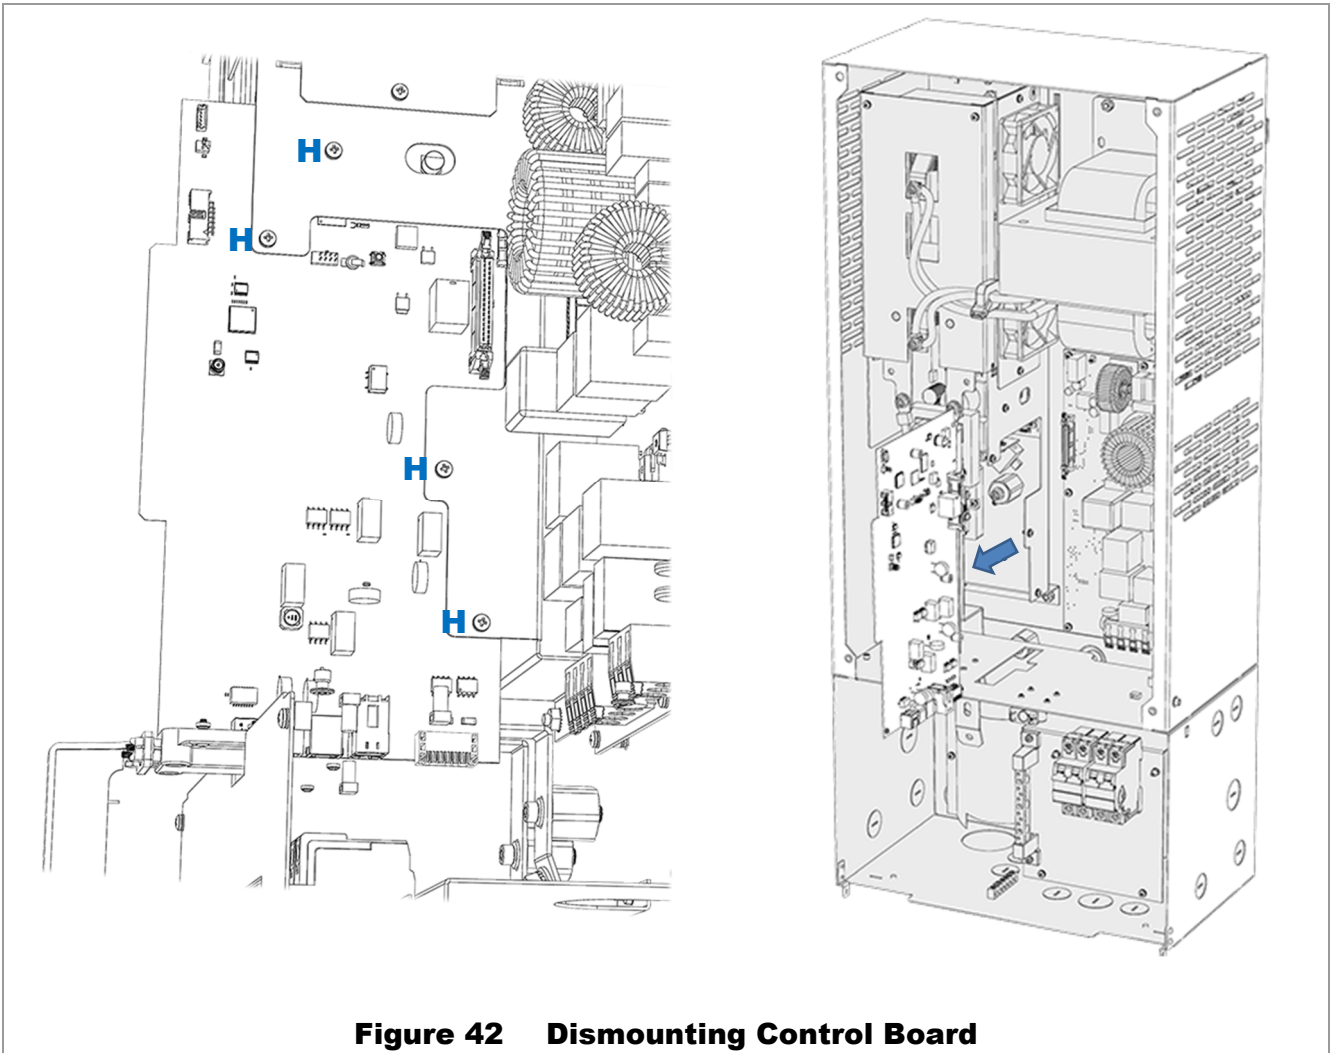

Figure 42 Dismounting Control Board
- Using a #2 Phillips screwdriver, remove 4 screws **H** from the control board. See Figure 42.
- Carefully remove the control board, pulling toward the front of the inverter, as shown in Figure 42.